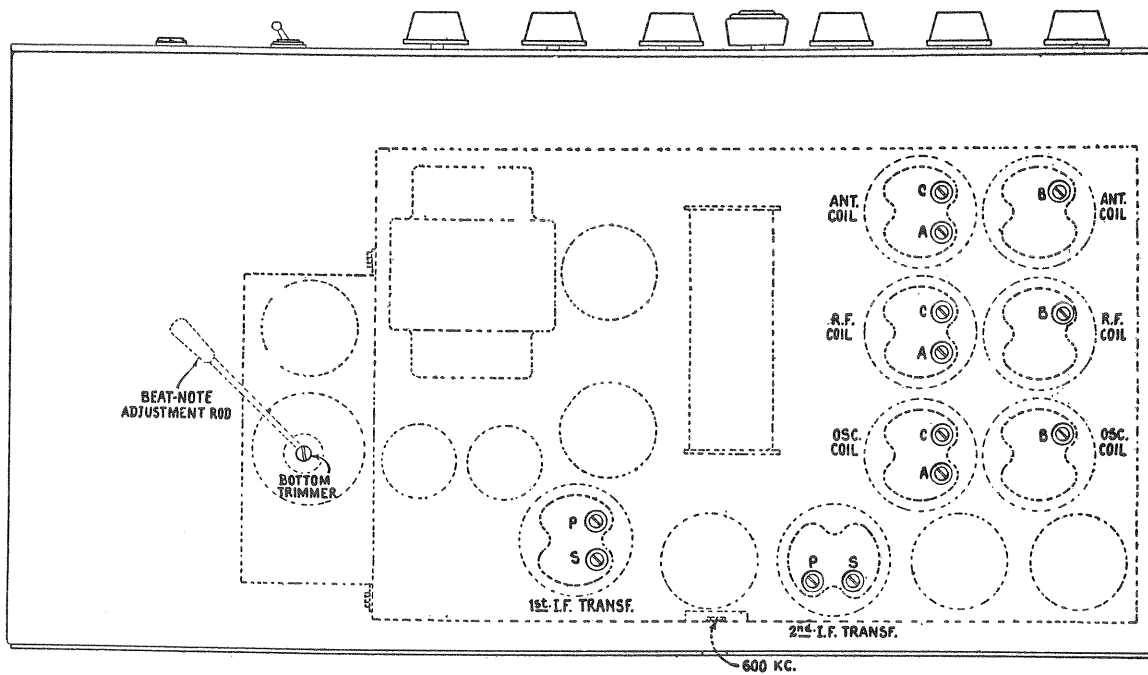

Figure 6—Locations of Trimmers (viewing bottom of case)
This receiver, of course, was aligned at the factory, but should be checked regularly (preferably once every six months) to insure best possible results. Adjustments when necessary can be performed easily since all trimmer capacitors are accessible through openings in the external case as shown in Figure 6. If desired, however, the chassis can be withdrawn upon removal of the front panel and four mounting screws.
Both the primary and the secondary circuits of the two coupling transformers for the i-f stage are tuned. Thus, four trimmers may require adjustment to the nominal intermediate frequency—460 kilocycles. To effect these adjustments, refer to Figure 6 and proceed as follows:
The r-f amplifier, oscillator and first detector stages include a total of four trimmers in band A and totals of three trimmers each in bands B and C. These bands should be aligned individually and in alphabetical sequence. Care must be used to avoid disturbing the adjustments of trimmers not involved in the band under test. Nominal line-up frequencies for band A are 600 and 1720 kilocycles, while bands B and C are aligned at 5160 and 18000 kilocycles, respectively. For these adjustments, refer to Figure 6 and proceed as follows:
- (b) Place test oscillator in operation at 1720 kilocycles, set dial pointer at 1720 kilocycles and adjust the three trimmers designated by the letter "A" (Figure 6) for maximum output.